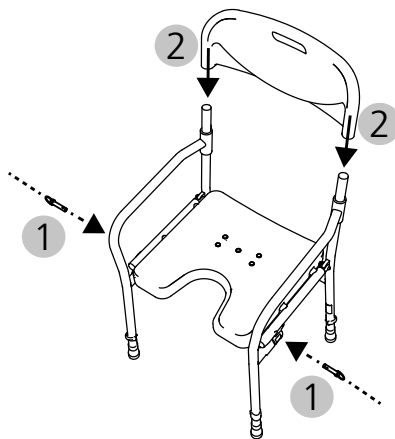

Abb. 5
4. The securing bolts (right/left) are inserted from the side until they click into place (Fig. 5, 1).
5. Lift the backrest to the side using both hands. The next step is to push the backrest onto the back tubes up to the stop of the sleeve fastening (Fig. 5, 2).